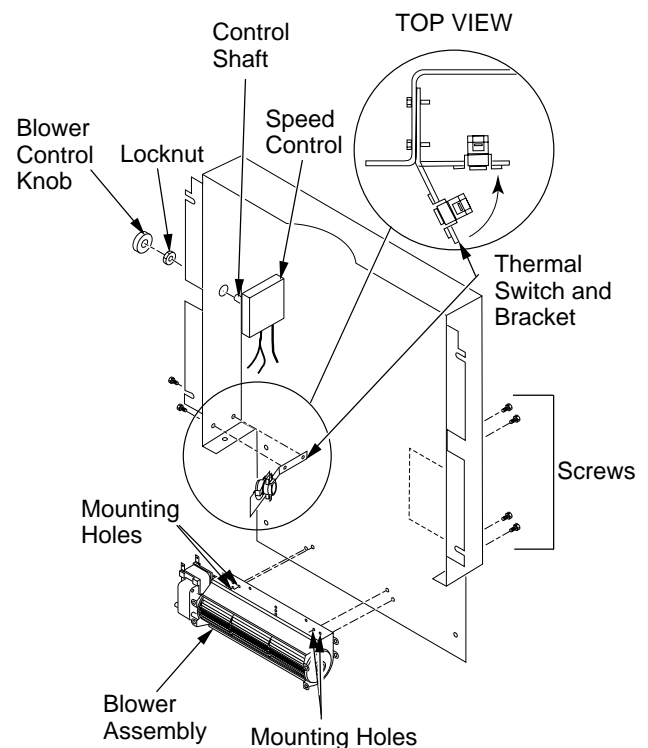

Figure 17 - Blower Assembly, Speed Control, and Thermal Switch Locations
3. Align the holes in the top mounting tabs of blower with the holes in wall of rear cover. Using the 4 screws provided, mount blower and tighten screws securely (see Figure 17).
- Thermostat Blower Only:** Attach thermal switch and bracket to inside rear cover wall with two hex head screws provided as shown in Figure 17, page 8. After securing bracket to rear cover, carefully bend along existing bend line on bracket to almost a 90° angle (see Figure 17, page 8). This will allow thermal switch to be positioned against stove rear wall and sense temperature when in operating mode.
- Place speed control on left inside of rear cover and push the plastic control shaft through opening (see Figure 17, page 8).